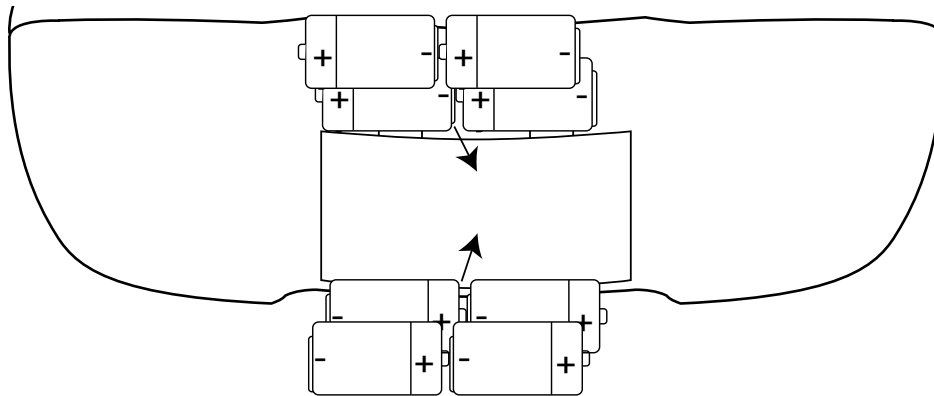

Figure 2
- Insert 8 'C' size (UM-2) batteries into the battery compartment as shown in figure 2 below. Be sure to observe the polarity markings which are engraved inside the battery compartment. If the batteries are inserted incorrectly, the unit will not operate.